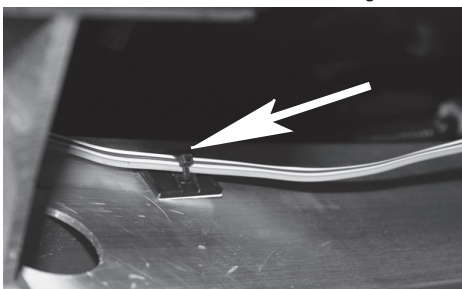

Figure 6
9. Underneath vehicle route 4-Flat along bumper frame to passenger side. Clean a spot on bumper and apply cable tie pad and secure 4-Flat with cable tie shown in Figure 6.